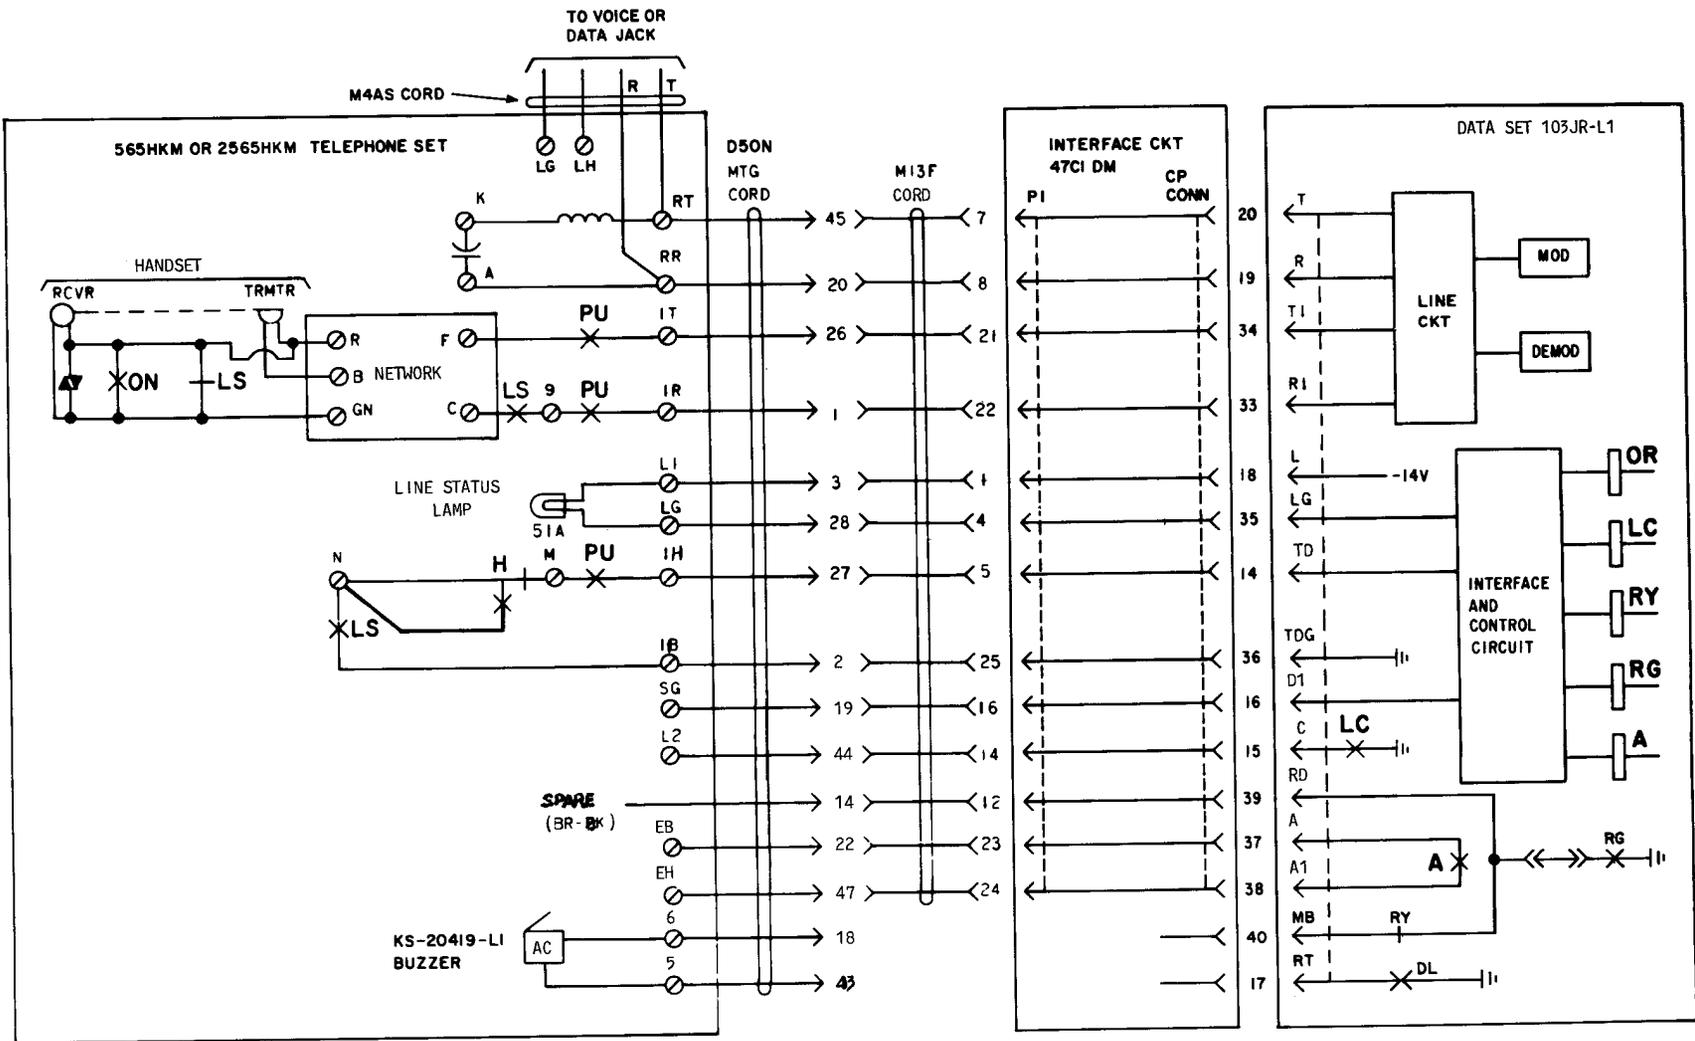

Fig. 4—Interface Between Telephone Set and Data Set
**4.03** Figure 4 shows a simplified diagram of the telephone set, interface, and data set.